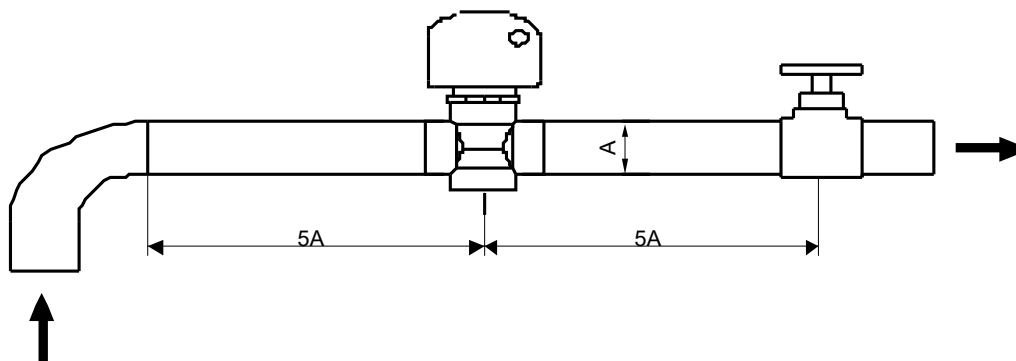

Figure 11
- The pannier is absolutely forbid to touch the flow switch floor, or the switch will be deformed and invalid, (Figure 11)